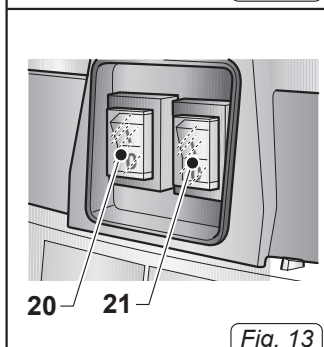

Fig. 13
- Depending on the power required it is possible to start only one motor by pressing the switch (20 Fig. 13) on "I" or both switches (20-21 Fig. 13) if a greater suction force is required.
- Push the switches (20-21 Fig. 13) to the "0" position to stop the device.